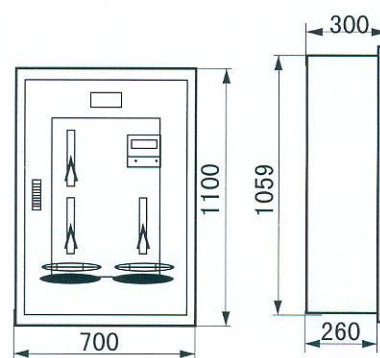

图4 PJ2-F电能计量柜外型图
- ◆ PJ2-F柜体尺寸: 700 (宽) × 300 (深) × 1100 (高) 外形见图4。
- ◆ PJ2 - F: 700 (Width) × 300 (Depth) × 1100 (Height); refer to Fig. 4 for overall.